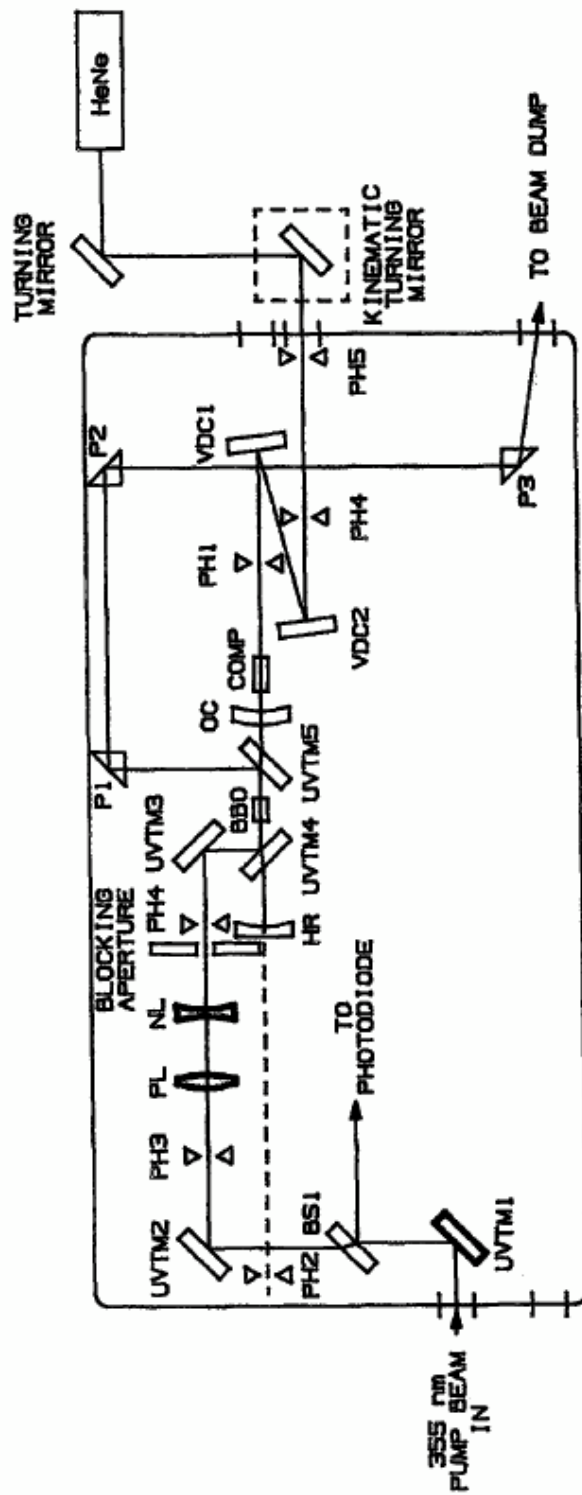

Figure 3-10: Location of UVTM1 and telescope optics.
1. Place UVTM1 in the mount. Adjust the position of the UVTM1 such that the pump beam is centered on the UVTM2. After proper adjustment, the pump beam will pass through the center of BS1. (See figure 3-10).
8. After this adjustment, the two beams will no longer be overlapped on the face of the BBO crystal. Reiterate step (6) and (7) until both beams simultaneously overlap on the face of the BBO crystal and on the negative lens.